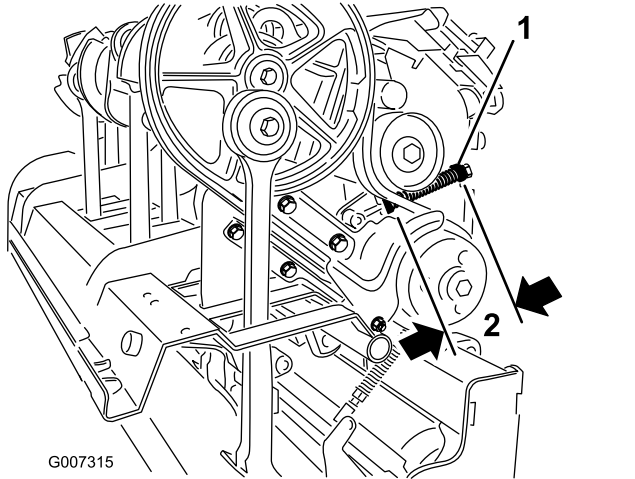

Figure 35
C. Loosen the locknut securing the spring retainer (Figure 35).
- D. Adjust the spring retainer to attain required compressed spring length (Figure 35).